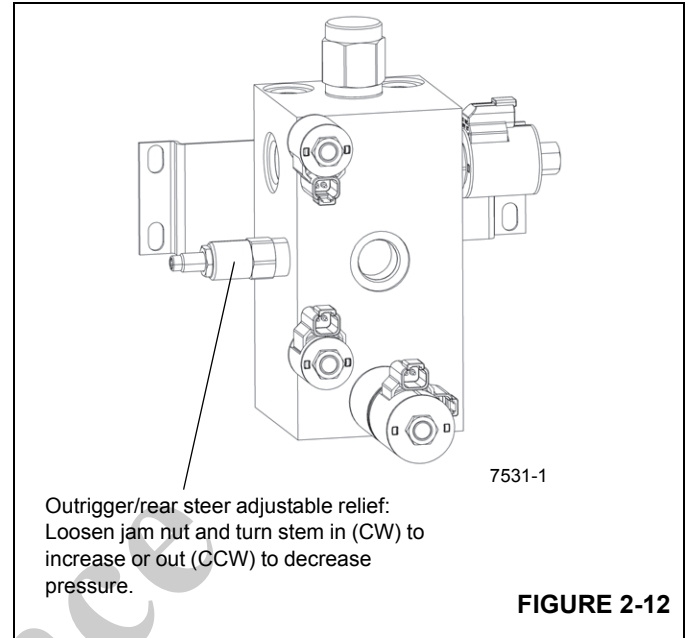

FIGURE 2-12
1. Install pressure check diagnostic quick disconnect with gauge onto test nipple at outrigger/rear steer valve pressure check port Figure 2-12.